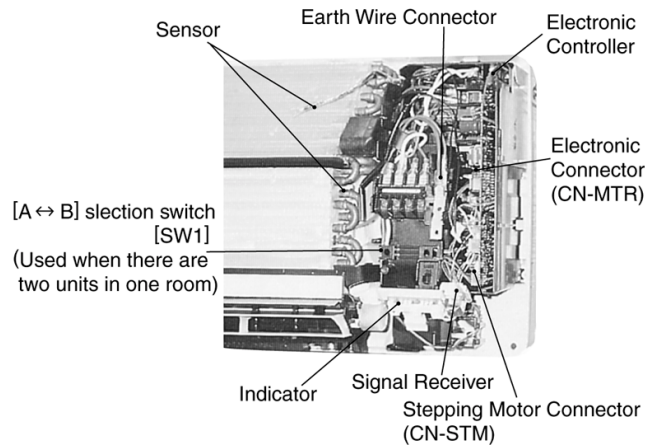

Fig. 1
1. The Electronic Controller, a Signal Receiver and an Indicator can be seen by removing the Front Grille and Control Board Cover, as shown in the Fig 1.
1. Remove the connector CN-MTR (GREEN) of Fan Motor and connector CN-STM (GREEN) of stepping motor from the electronic controller. Release the earth wire (YELLOW-GREEN) from the control board and sensors from its holders. (Refer Fig. 1)